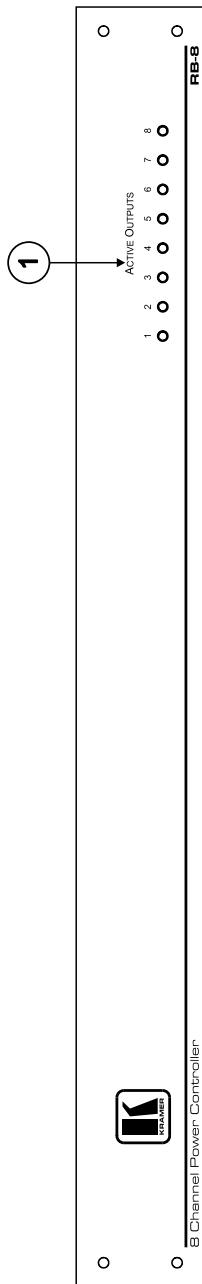
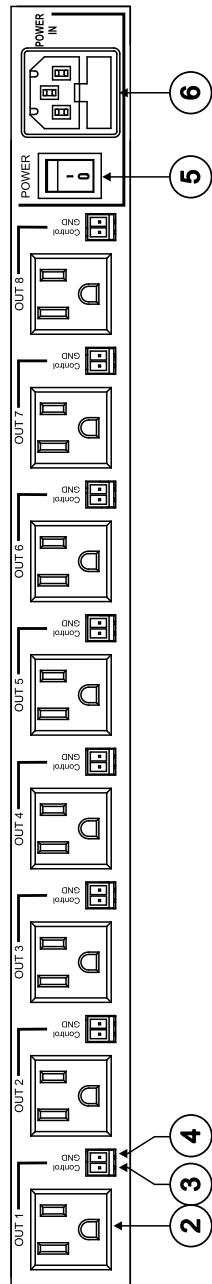
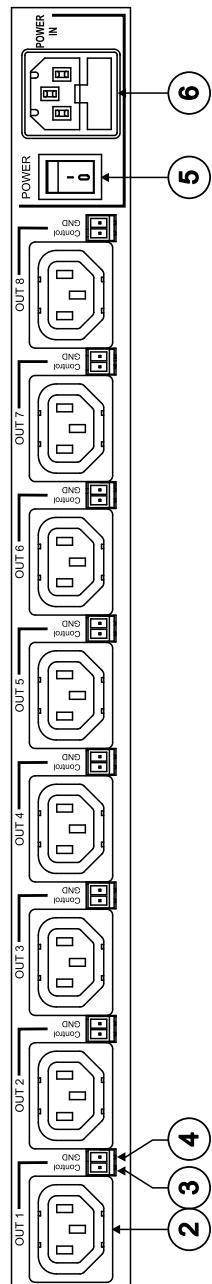

Figure 1: RB-8 / RB-8E Front Panel
Figure 2: RB-8E Rear Panel
Figure 3: RB-8 Rear Panel
Table 1, Figure 1, Figure 2, and Figure 3 define the unit.
2. Connect a switched cable to the CONTROL/GROUND contact of the same port (for example, from the **PL-8 Low Voltage Relay Controller** as shown in *Figure 2*.)
3. Connect the power cord to the **RB-8/RB-8E** (not illustrated in *Figure 2*.)